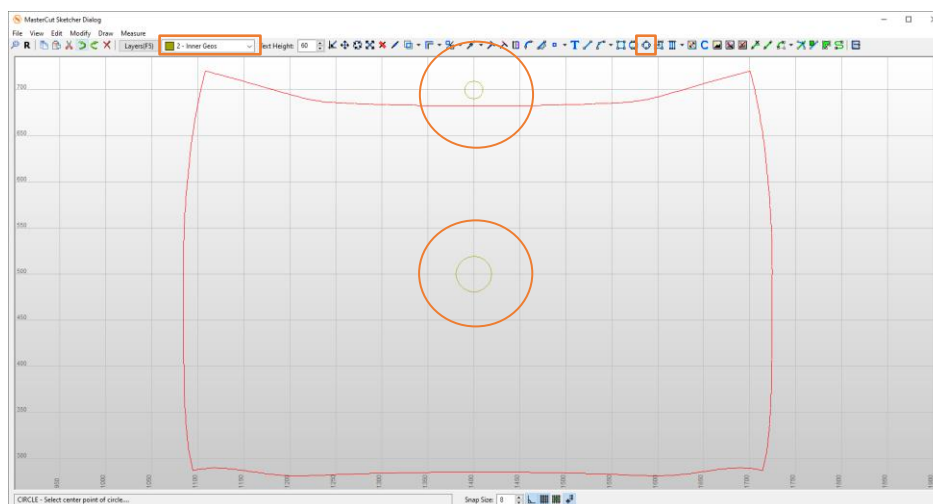

Figure 398
2. Inside the MasterCut Sketcher Dialog draw two circles on Layer 2 **2 - Inner Geos**, one in the center of the MasterCut and the other one on top, slightly outside the outer contour, as indicated in Figure 398 below.